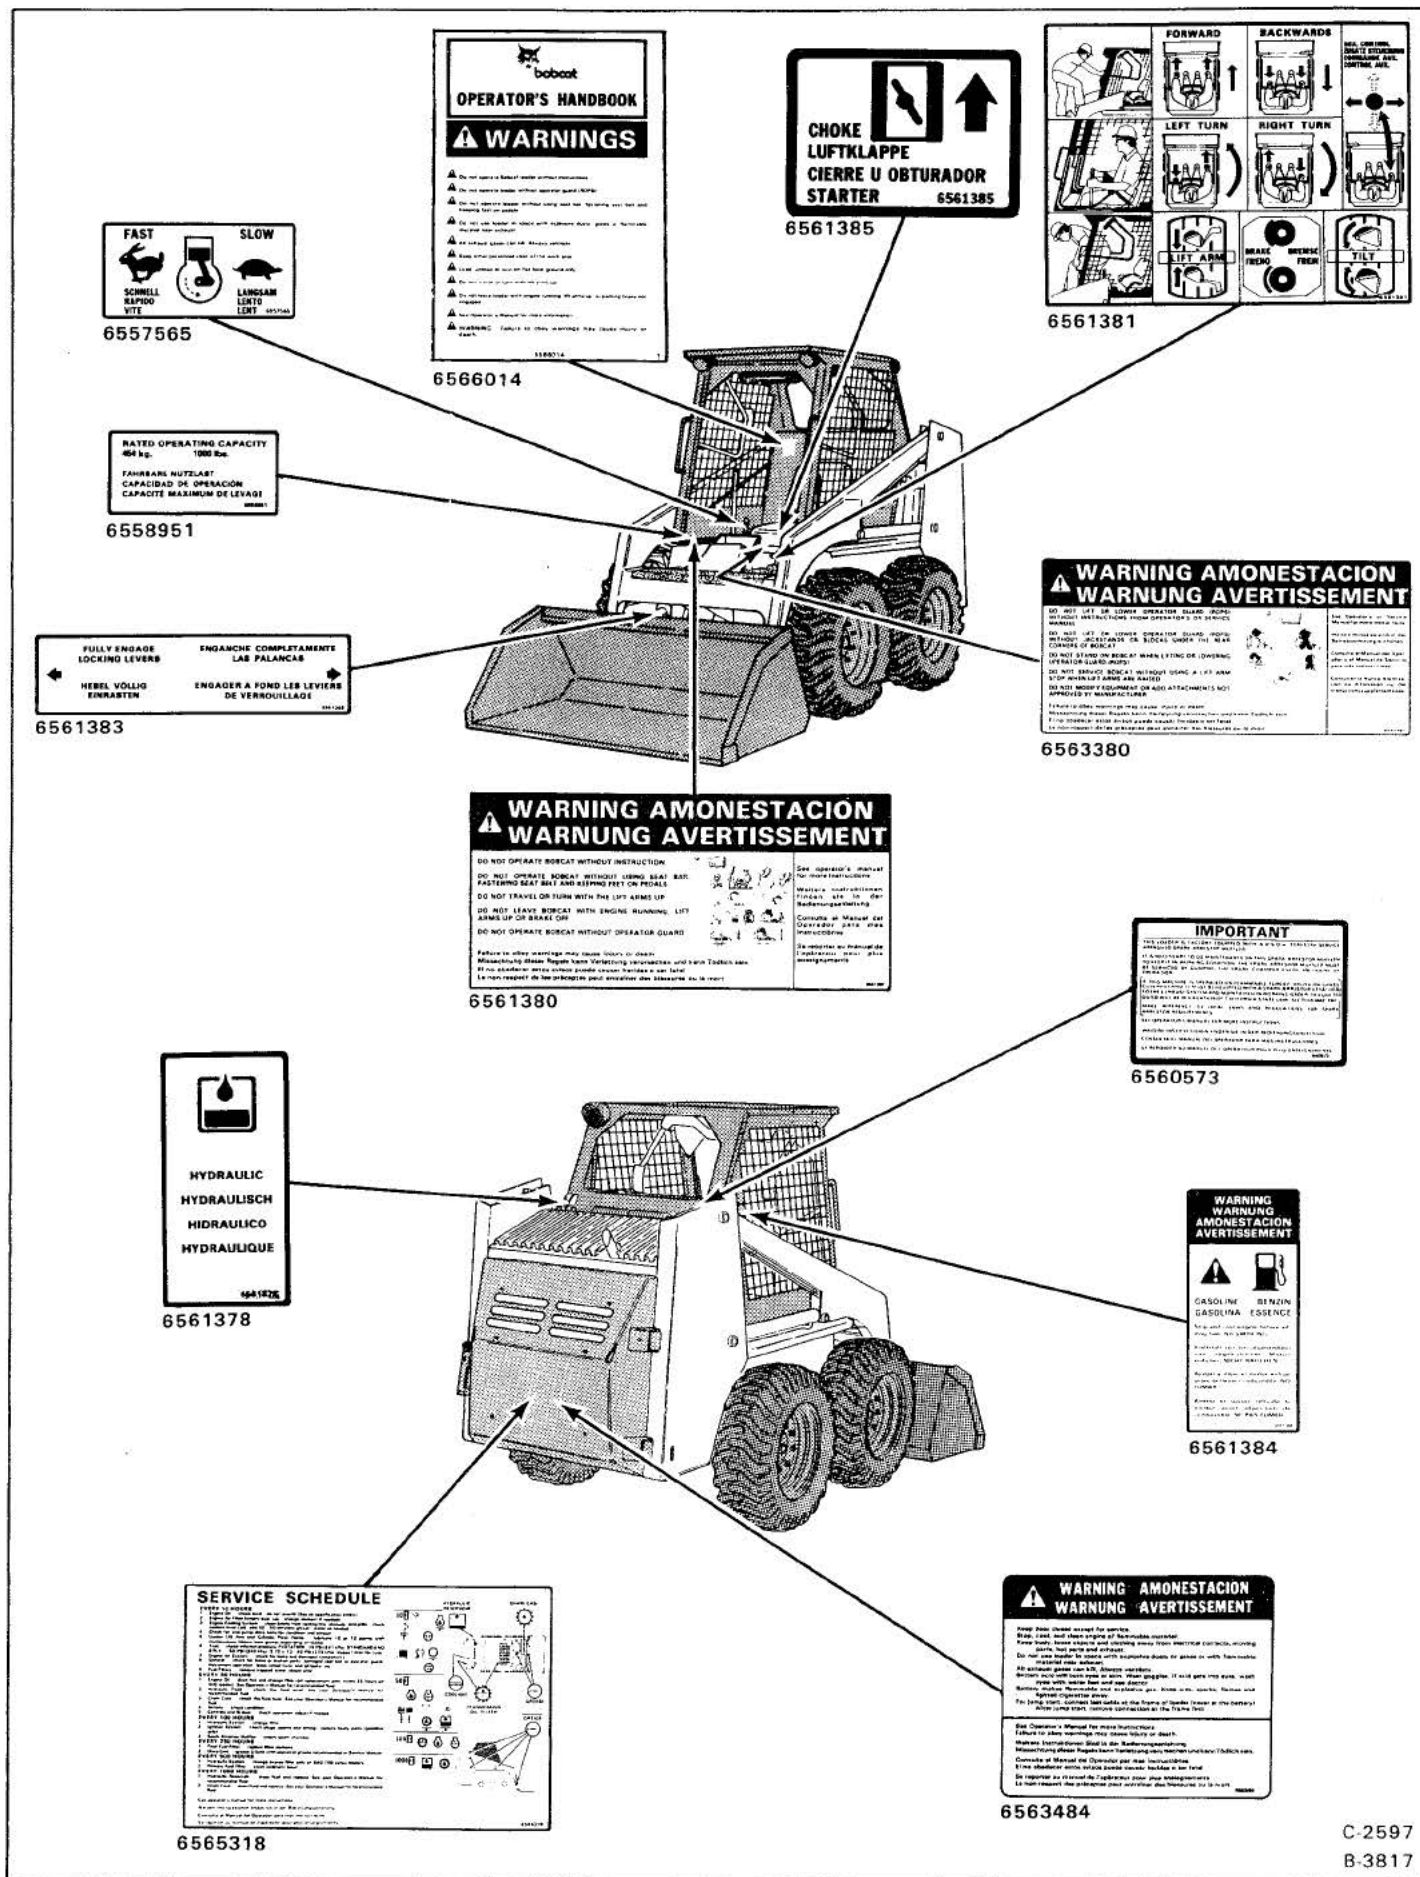

Fig. 8 Decal Locations
7. Follow the instructions on all the safety signs (Decals) that are on the Bobcat loader in the locations shown in figure 8. You must replace any damaged safety signs (Decals) that are not in the correct locations. Safety signs (Decals) are available from your Bobcat dealer.
- a. Make sure that the OPERATOR HANDBOOK (Fig. 8) P/N 6566014 is on the Bobcat loader and is read by the operator.